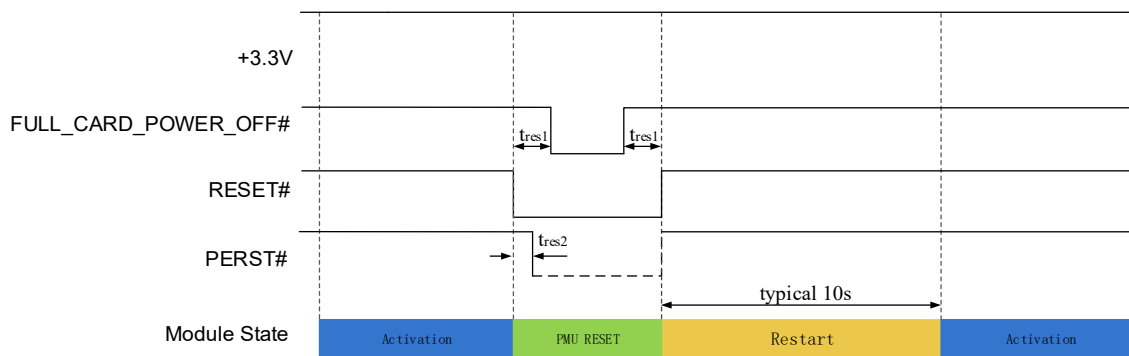

Figure 3-9 Reset control timing^{2nd}
- Host may assert FULL_CARD_POWER_OFF# high when system restarting, module reset timing is shown in the Figure 3-9;